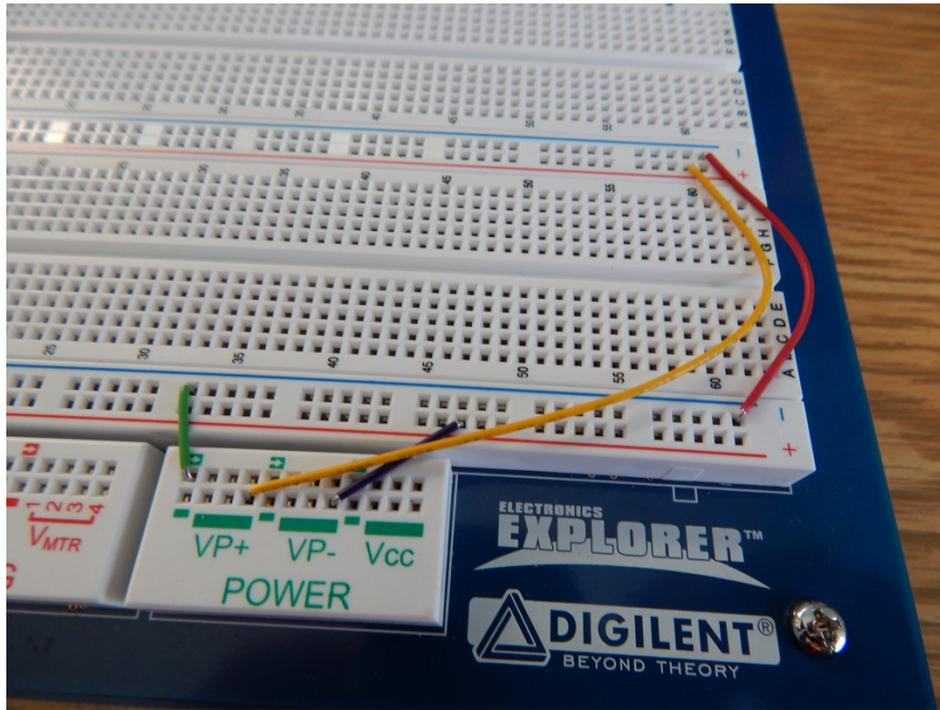

Figure 5. Connect the power at the end of the board so they do not interfere with the transmitter or receiver.
1) The first thing we want to do is set the ground and the two power rails, just as we did for lab 4. First connect one of the grounds (a down arrow) to the blue “rail” and then use another wire to connect the top and bottom blue rails together. It is better to do this somewhere away from the board where the USB and power connectors are. Next connect a wire from VP+ to the top red rail (this will be our V_{CC}) and connect a wire from VP- to the bottom red rail (this will be our $-V_{CC}$). Both V_{CC} and $-V_{CC}$ are just to provide the necessary voltages to our trap amp, *they are not the input signals*. Figure 5 shows how I connected these. Note that we want as much room on our breadboard as possible for the transmitter and receiver .